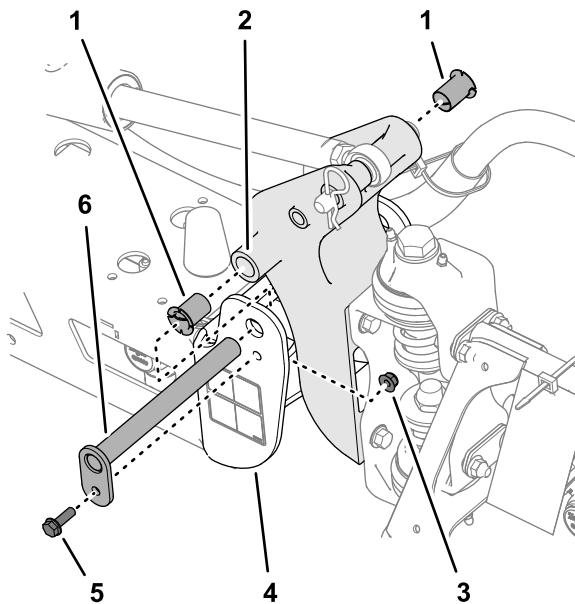

Figure 108
3. Remove the bolt and nut that secure the pivot pin, and remove the pin (Figure 108).
5. Remove and inspect the nylon bushings from the front and back sides of the pivot bracket (Figure 108).
6. Lubricate the nylon bushings with a small amount of oil and install the bushings into pivot bracket (Figure 108).
7. Align the holes in the pivot bracket with the holes in the end channel (Figure 108).